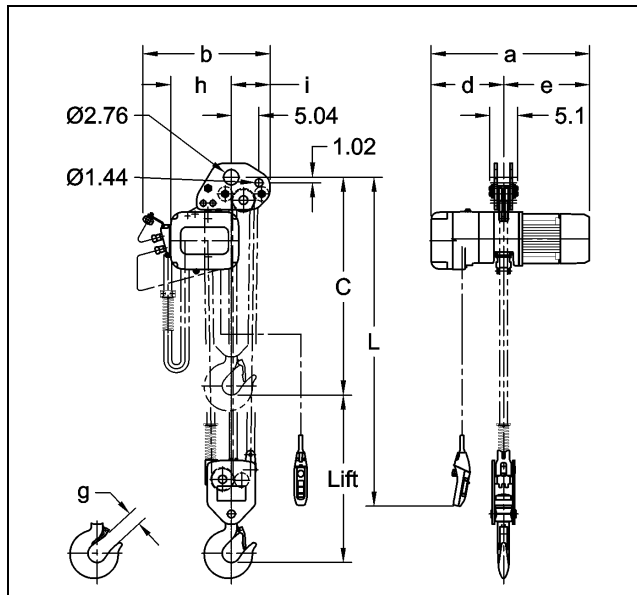
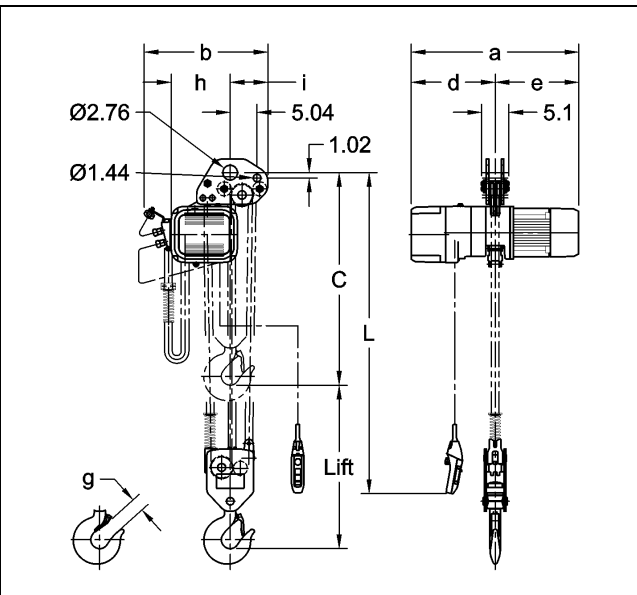

Figure 2-1 – NER2080S
Figure 2-2 – NER2080SD
3.4.4 Lug Mounted ER2080S and ER2100L-LG – To maintain proper balance when the hoist is not loaded, it is necessary to install a stabilizing shaft to prevent the hoist from pivoting on the main support shaft. Refer to Figure 2-1 and Figure 2-2 for the size and location of the main support and stabilizing holes in the hoist's top suspension plates.